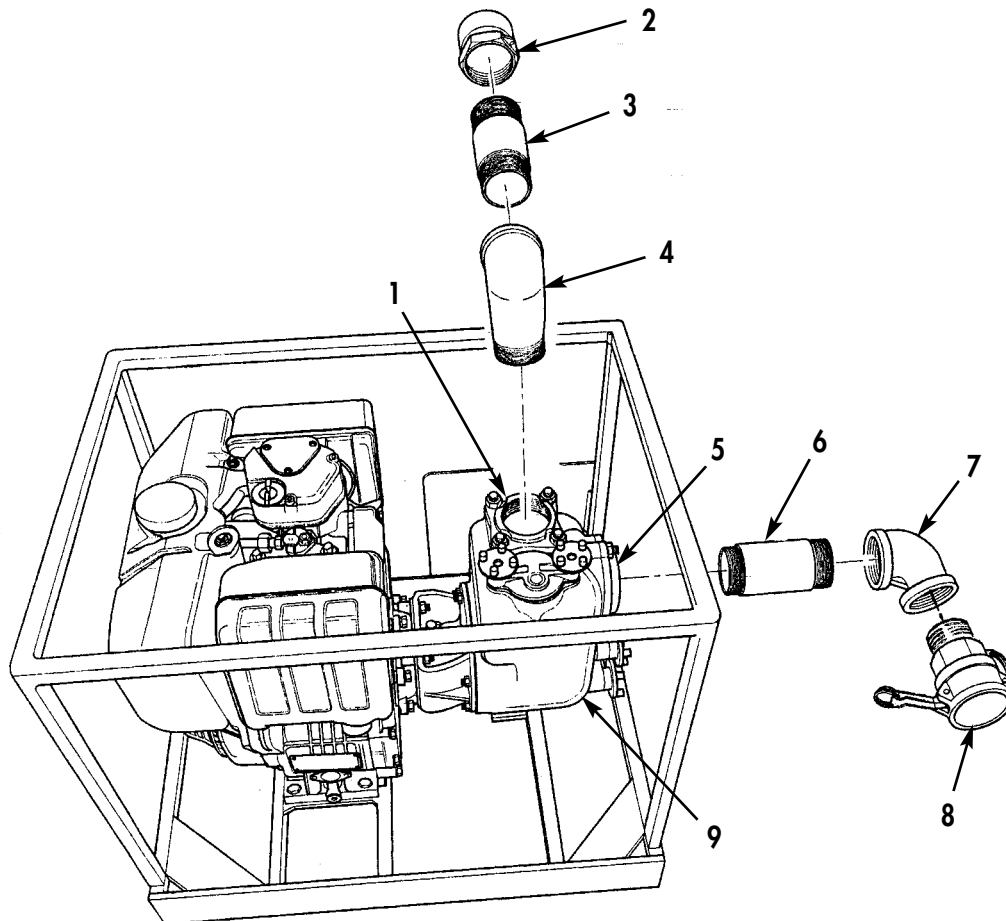

Figure 15. Pump Fittings, FAWPSS Model M105.
3. Apply antiseize tape to male pipe threads only, and install 2 in. (51 mm) DIA street elbow (Figure 15, Item 4), 2 in. (51 mm) long pipe nipple (Figure 15, item 3), and male coupling (Figure 15, Item 2) on discharge port (Figure 15, Item 1) of pump (Figure 15, Item 9).
4. Apply antiseize tape to male pipe threads only, and install 2 in. (51 mm) DIA x 6 in. (152 mm) long pipe nipple (Figure 15, Item 6), 90-degree elbow (Figure 15, Item 7) and female coupling (Figure 15, Item 8) on suction port (Figure 15, Item 5) of pump (Figure 16, Item 9).